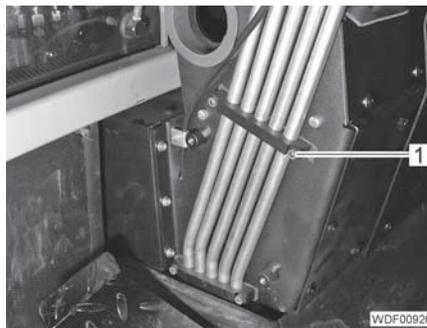

Fig. 126 Hydraulic lines
- Unscrew the 2 screws (Fig. 126,1) on the two holders.
- Tighten the 2 screws (Fig. 126,1) on each of the two holders.